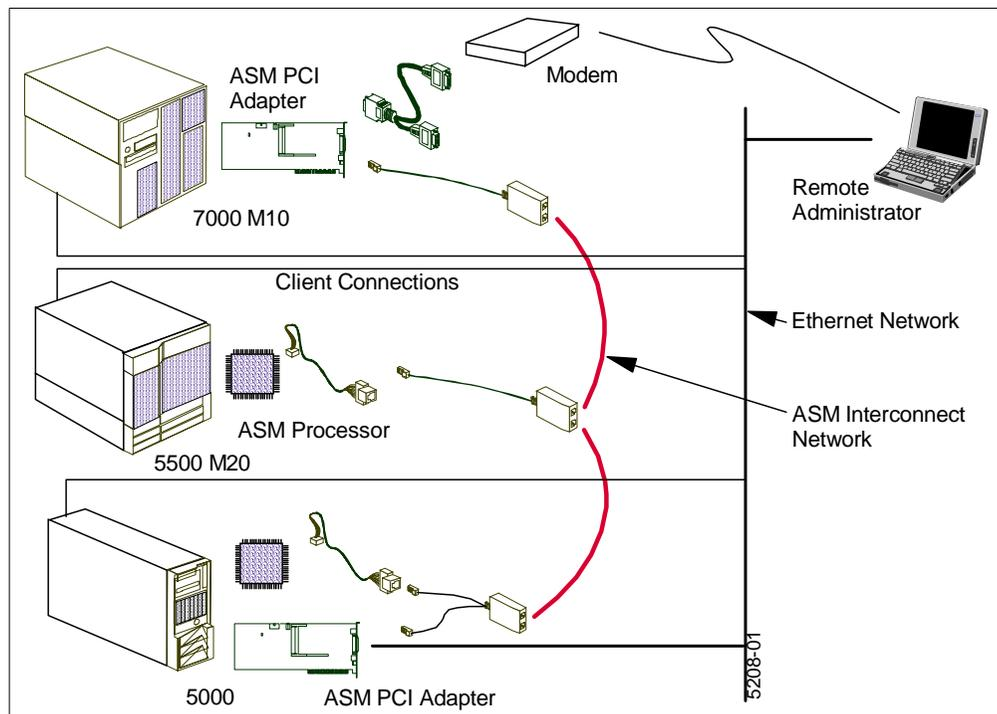

Figure 62. Sample Netfinity Advanced System Management Interconnect Bus
To connect to the ASM interconnect bus, you will need the following components, as shown in Figure 62:
You can access the ASM interconnect bus through a number of methods as shown in Figure 62:
- Figure 62 shows the ASM interconnect bus with one Ethernet connection and one modem connection. You may want to consider adding redundant connections to your LAN and to additional modems.